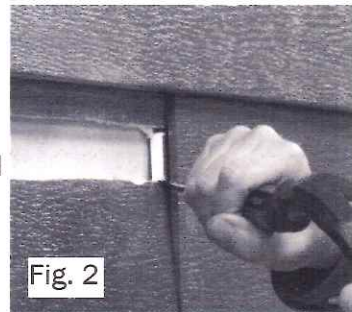

Fig. 2
- Finish the cuts at the seams using a utility knife being careful not to cut into or damage the adjacent panel(s). On a right end seam, you will need to use a flat blade screw driver or narrow chisel to finish the cuts behind the seam. (Fig 2)
- Square corners can be achieved if desired by removing material on the back of the piece as shown in figure 2.